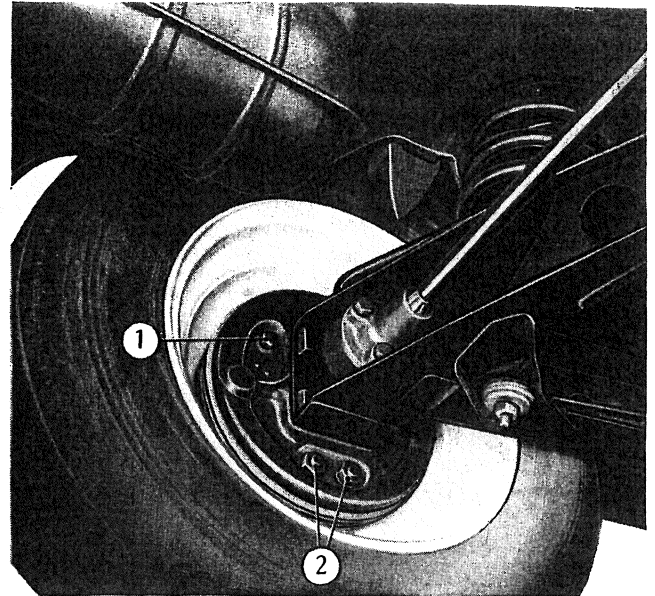

Fig. 364 - Axle end of left rear wheel brake housing flange, «Sedan», (hinged-type shoes).
2) Screw upper eccentric cam hexagon (1, fig. 364) and cause shoe to expand until shoe-to-drum clearance is reduced to .0098" (0,25 mm).
Slacken anchor pin nut (2, fig. 364), push back the pin until it clears the stop plate, and rotate pin of one or two serrations so as to bring drum-to-shoe heel clearance to .0039" (0,10 mm).